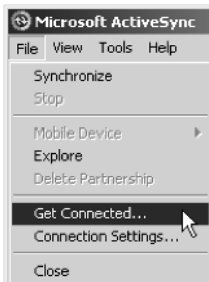

Figure 2-37. MS ActiveSync – File->Get Connected
6. Click on **File->Get Connected** (Figure 2-37).